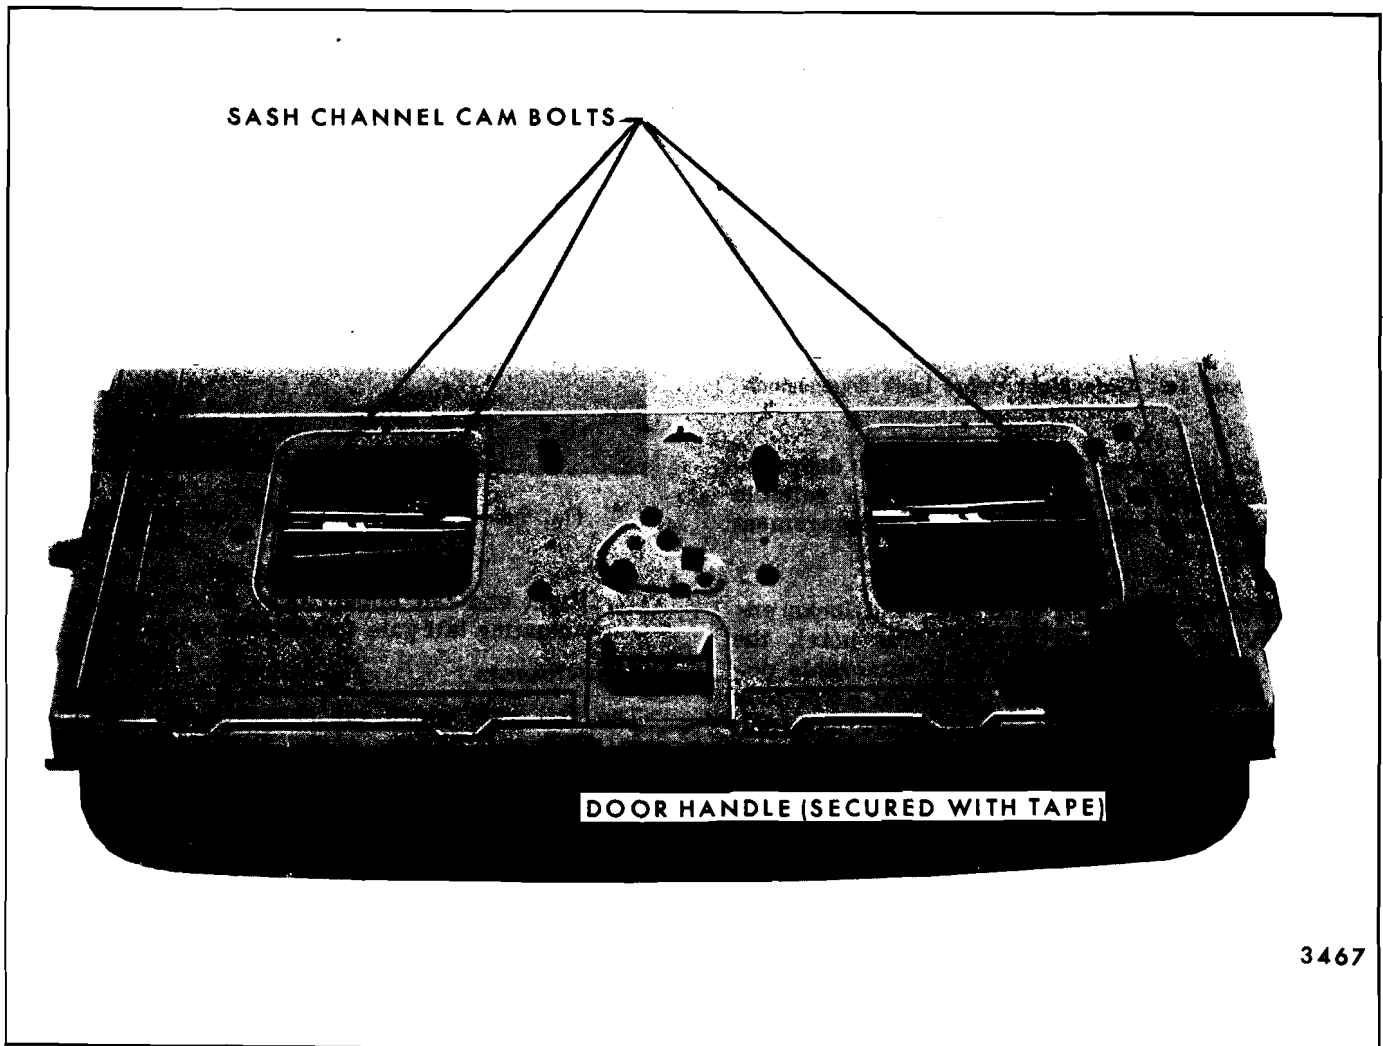

Fig. 9-4—Dual Tail Gate Glass Removal
3. Operate tail gate window to a point that sash channel cam attaching bolts are accessible through inner panel (Fig. 9-4) - See "NOTE" and "CAUTION".
CAUTION: With tail gate open and locks engaged (as explained in preceding note), the tail gate has been placed in a vulnerable position and could drop from the right lower lock if inside door remote handle were actuated. As a safety precaution, prior to manually locking either right or left upper locks, firmly apply body tape over inside door remote handle to render same inoperable (Fig. 9-4).
4. Remove right and left cam attaching bolts (Fig. 9-4). Slide cams free of regulator lift arm rollers and remove cams from tail gate.